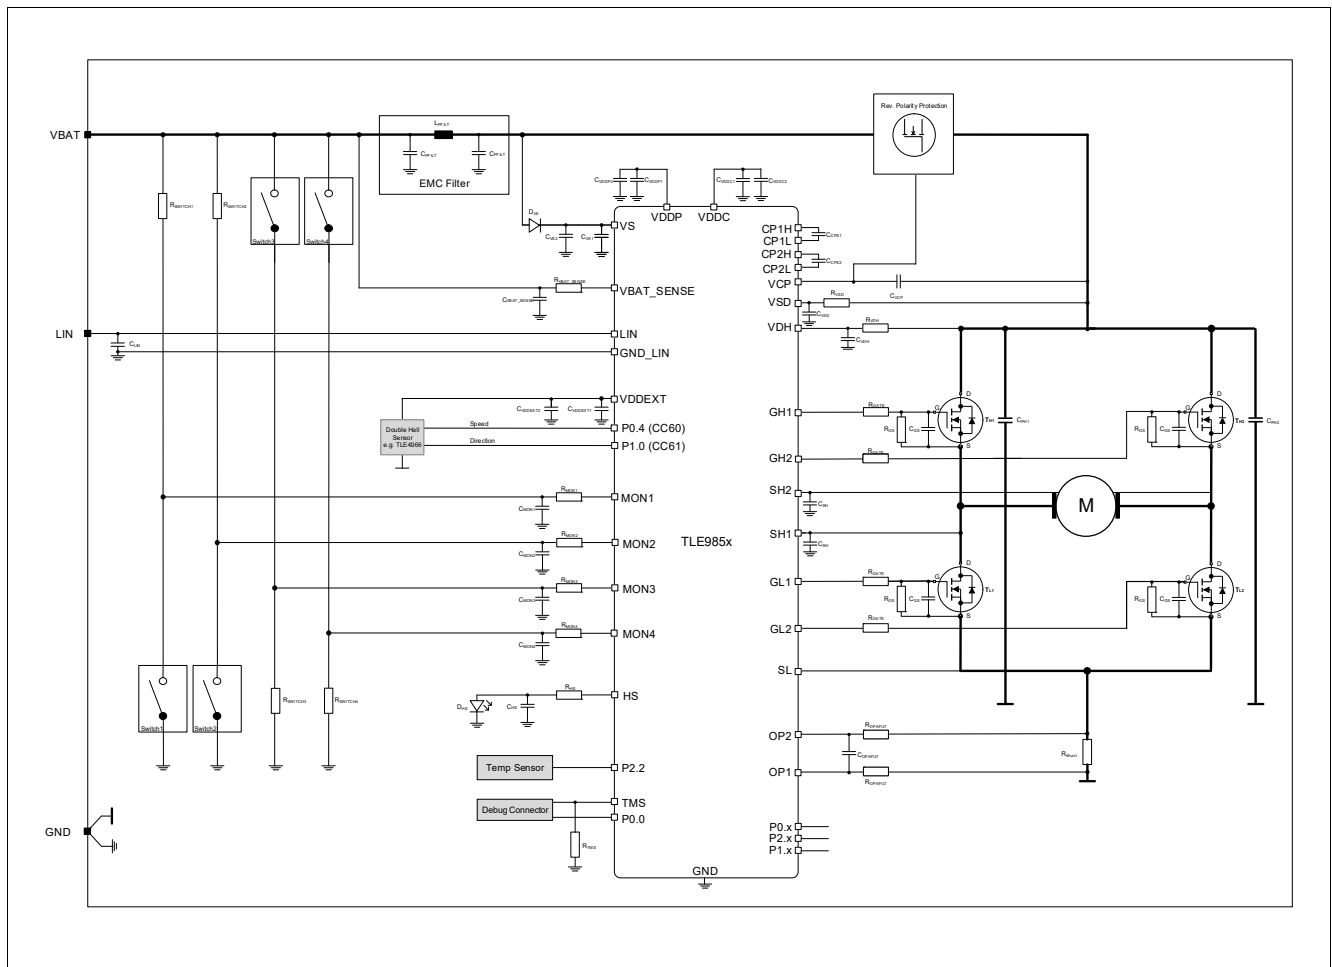

Figure 43 Simplified Application Diagram Example
- 2) With external circuit as shown in Figure 43.